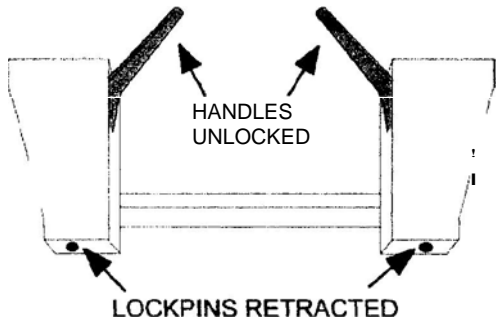

Figure 1 - Quick Attach Coupler Handles - Unlocked
1. The quick attach coupler handles should be in the unlocked position with lock pins retracted, Figure 1.